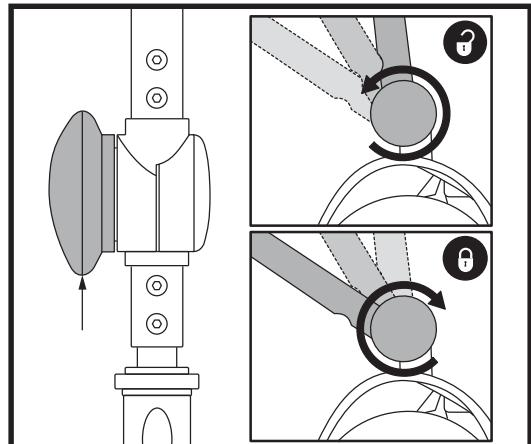

Figure 22. Tiller Adjustment Knob
TILLER ANGLE ADJUSTMENT (See figure 22)
1. With the seat and battery pack removed (see Disassembly Procedures on previous page), lower the tiller and tighten the tiller adjustment knob. See **figure 22**.